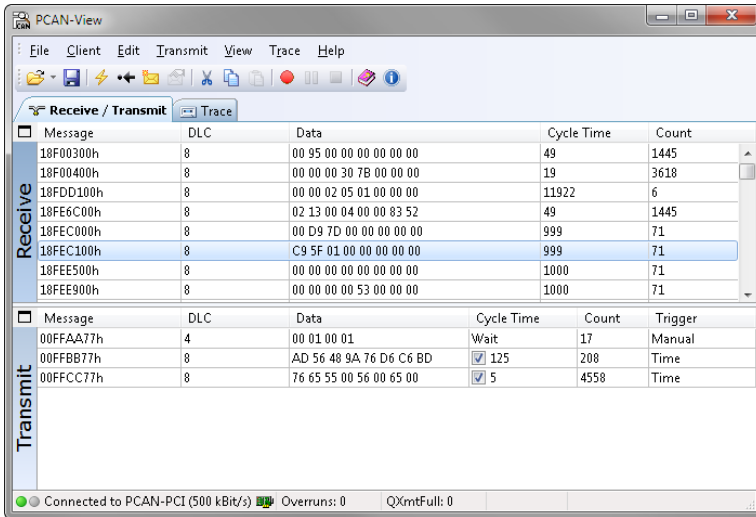

Figure 8: Receive/Transmit Tab
5. Finally confirm the settings in the dialog box with **OK**. The main window of PCAN-View appears (see Figure 8).